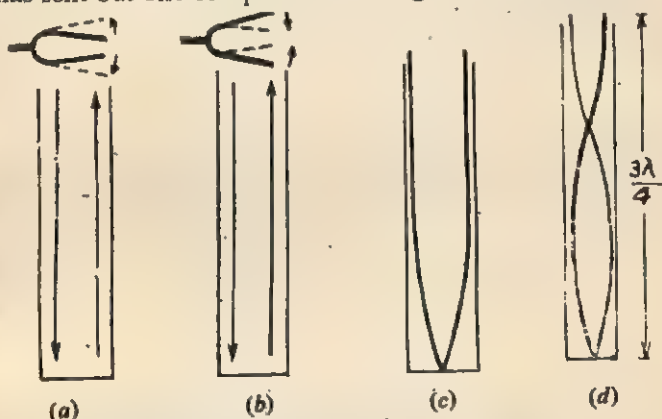

Fig. 5.9. (a) Compression moves down and up.
**Explanation.** Let us understand with the help of Fig. 5.9 what happens when the air column **resonates**. Let us start considering the case when the lower prong of the tuning fork is in its extreme upper position. As the prong moves through half a *vibration*, it sends a pulse of *compression* down the tube which is reflected from the water surface in the tube and reaches back to the mouth of the tube as shown in Fig. 5.9 (a). Under the condition of resonance, the moment the *compression* reaches the top of the tube, the prong just reaches its lowest position and is ready for upward movement. When the prong starts moving upward from the lowest extreme position, it sends a *rarefaction* down the tube as shown in Fig. 5.9 (b). This rarefaction too is reflected by the water surface and returns back to the mouth of the tube in the time in which the prong completes one vibration. At this stage the fork has completed one complete *vibration* and has sent out one complete wave-length of sound wave. The
Similarly it may be argued that in the *second* position of resonance, the fork completes three vibrations in the time the sound travels four times (two times compression and two times rarefaction) the length of the tube. Therefore, in this case the length of the air column is equal to three quarters of a wave length as shown in Fig. 5.9 (d).
**N.B.** Owing to the difficulty of representing compression and rarefaction of a longitudinal wave diagrammatically it is customary to represent them by the method of transverse wave curve as shown in Fig. 5.9 (c) and (d).
waves at the open end of the tube should occur slightly above the end as shown in Fig. 5.9 (c). So a small correction has to be applied to the observed resonance length of the air column. This correction is called "end correction" and was found by Rayleigh to be  $0.3D$  where  $D$  is the internal diameter of the tube. Thus for the first resonance position